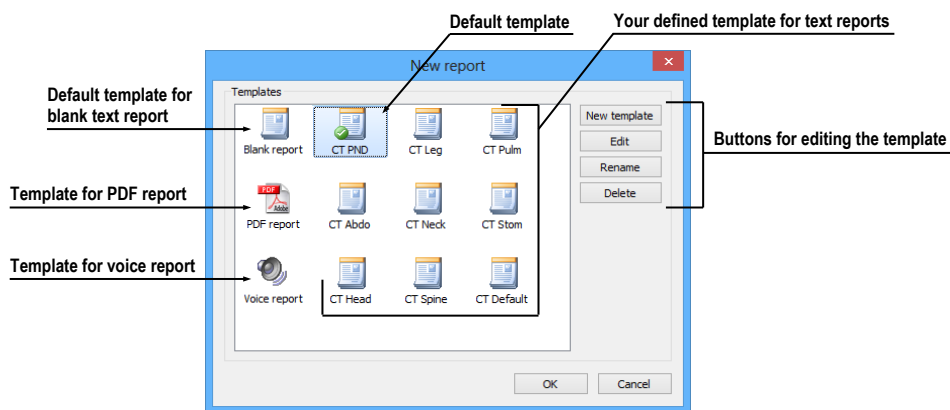
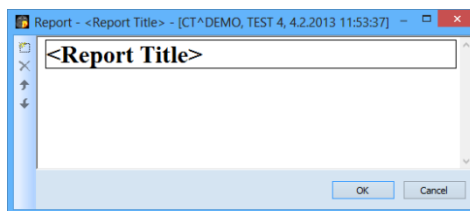

Figure 403 – Template choice dialog
Figure 407 – Report dialog
- Select the template for the new report (see Figure 403) by double-clicking the template icon.
- Text report - after double-clicking the  text type report icon, you can write a text report in the **Report** dialog that is displayed (see Figure 407). You can select the **Blank report** template or another one of your prepared text templates (Template No.1, see Figure 403). Your text template can define the predefined structure of the new text report.
The TomoCon application offers you the possibility to create your own text structure report using the report editor. This concerns a special dialog window (see Figure 407) in which you can write a structured text. The heading of the newly created report is filled in automatically from the patient study properties.